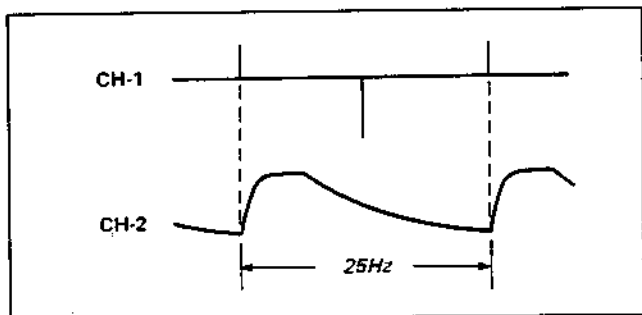

Fig. 4-3-8. Phase lock
- (3) Adjust RV8 for the phase lock shown in Fig. 4-3-8.)